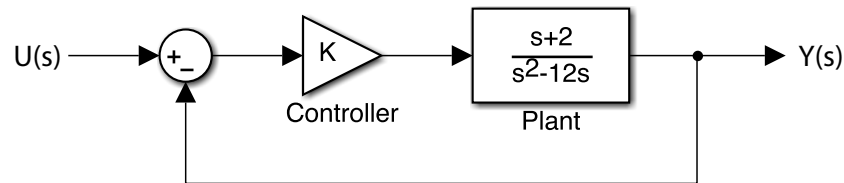

Figure 1: Simple proportional control system
Consider the feedback system shown in Figure 1.
2. Suppose you use proportional feedback control as shown in Figure 1. Explain *why* the scheme above is called proportional feedback. Explain (mathematically) how this scheme can be used to stabilize the system.
1. Create a Simulink model of the simple feedback system shown in Figure 1.